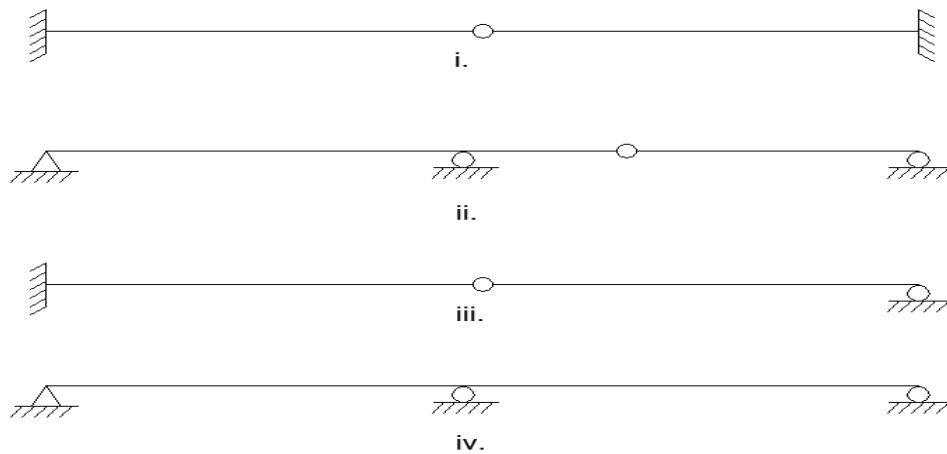

Figure 1.
1. Obtain the degree of static indeterminacy and degree of kinematic indeterminacy for the structures shown in **figure 1**. 14M
3. Determine the effective net area of double angle section connected to a gusset plate 12mm in thickness as shown in Fig. 1, for the following data : 14M